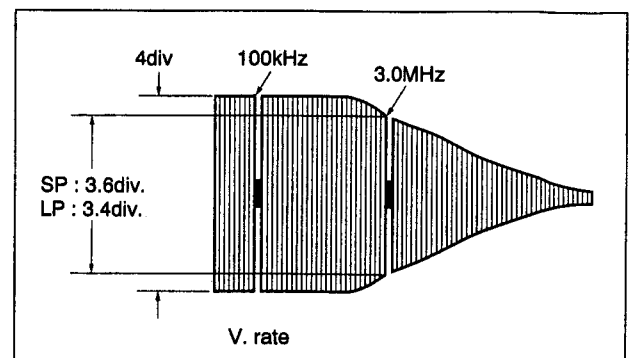

Fig. 3-4-11 S-VHS VIDEO EQ
- (1) Playback the SP (LP) color bar signal of MH-2H and MHVE-2 alignment tape.
- (2) Short between TP209 and TP210 with shorting lead.
- (3) Adjust the gain of the oscilloscope to set the higher color level to 4.0 scale divisions.
- (4) Press the **STOP** button and eject the alignment tape.
- (5) Set EVR mode A:2.
- (6) Record a color bar signal in SP (LP) mode, and playback recorded color bar signal.
- (7) Before recording, adjust **SET** or **SELECT** button so that the higher level channel becomes 5.0 scale (+2.0 dB) : SP [6.5 scale (+4.0 dB) : LP, 5.0 scale (±0 dB) : VHS SP] during playback as shown in Fig. 3-4-11.
- (8) Set normal VCR mode by pressing **MENU** button so adjustment data is memorized.